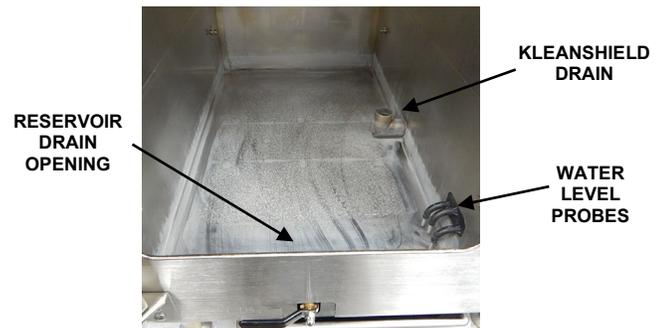

Figure 3-4
4. Remove the door gasket assembly, pan racks, fan guard, bypass shield, and KleanShield™ and make sure all surfaces are clean and drain openings and the water level sensors are clean and free of any residue or debris (See Figure 3-4).